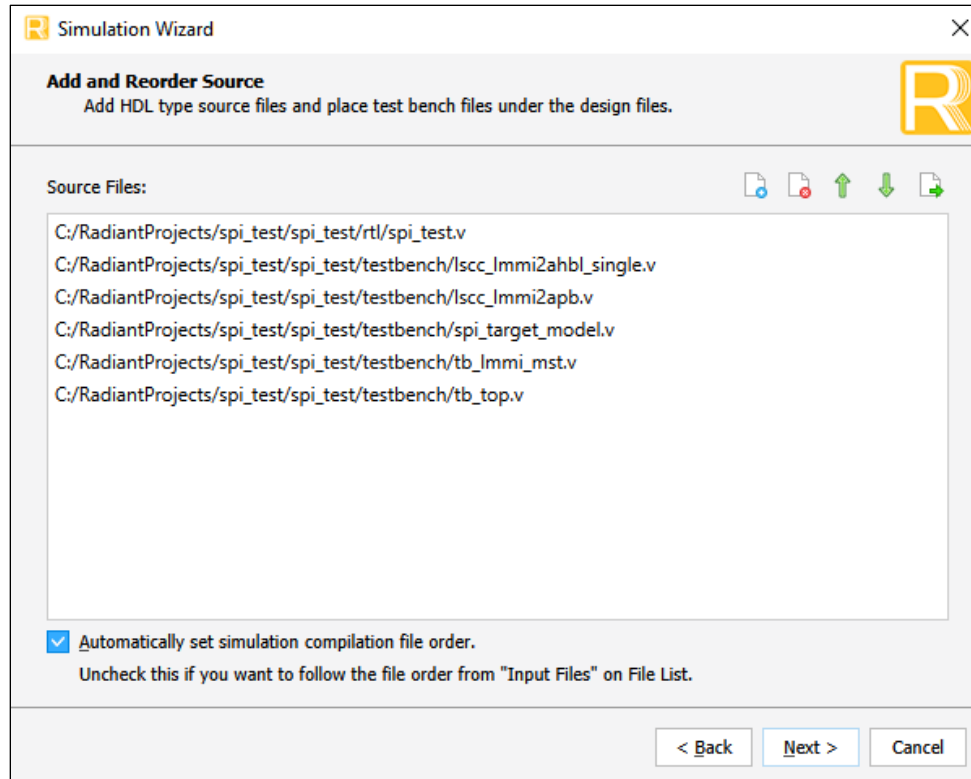

Figure 7.5. Add and Reorder Source
2. Click **Next** to open the **Add and Reorder Source** window as shown in Figure 7.5.